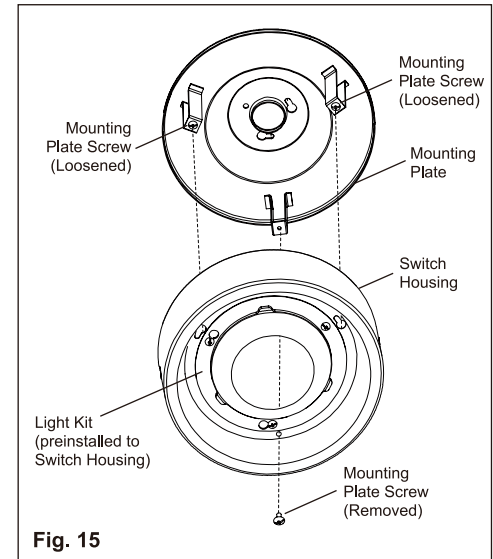

Fig. 15
Step 1. Remove the mounting plate screw from the circular hole in the switch housing. Retain the mounting plate screw. Loosen the other two mounting plate screws approximately 1/4 turn (do not remove). (Fig. 15)
Align the remaining hole in the switch housing with the remaining hole in the mounting plate. Install the mounting plate screw that was removed from the mounting plate earlier (**INSTALLING THE MOUNTING PLATE: Page 15, Step 1, Fig. 15**) into the aligned holes. Tighten all 3 mounting plate screws to secure the switch housing in place. (**Fig. 18**)